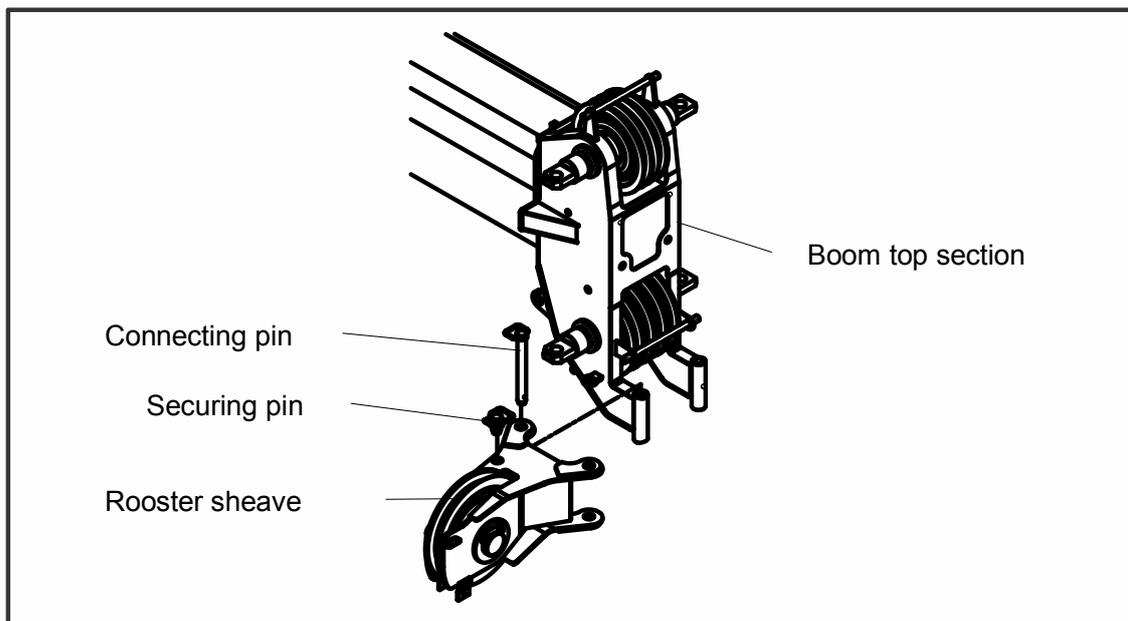

Fig.05-14
- b) Release the securing pin and turn the rooster sheave bracket until connecting pin can be bolted. See Fig.05-14.